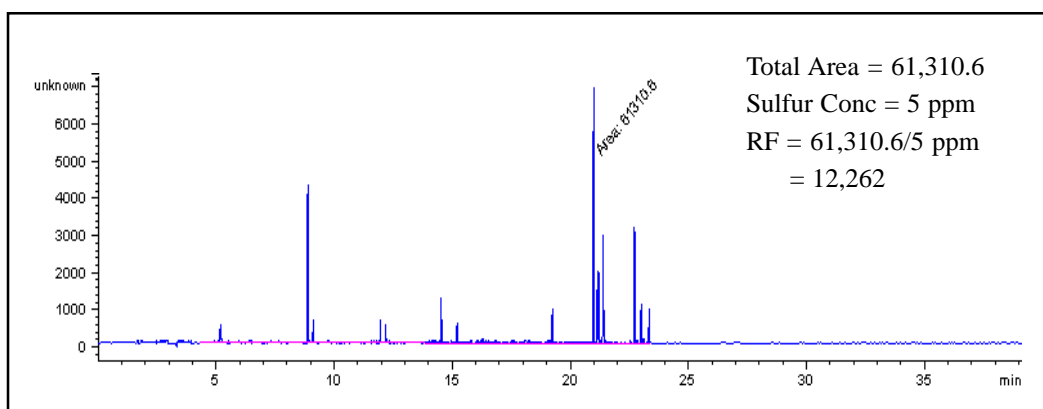

Figure 1. Calculation of Sulfur RF Using a Standard of 5 ppm Sulfur in Gasoline
4. Determine the total integrated peak area across the chromatogram and use it to calculate a response factor (RF) for sulfur as illustrated in Figure 1.